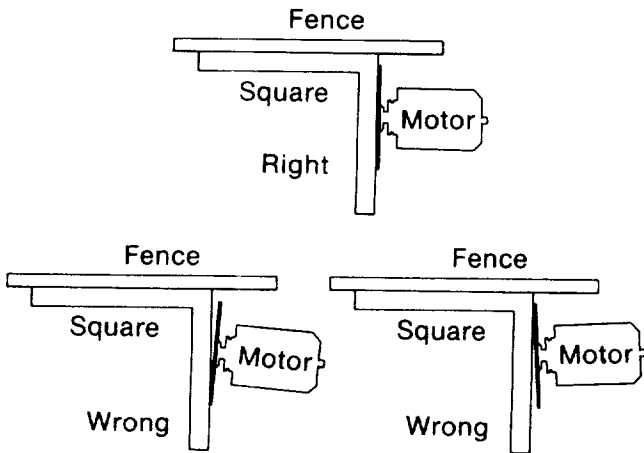

Fig. 77
5. If the square is flush with the *blade* after each rotation, no change is needed. (Figure 77) Go to the next section, or
If there is a gap between the square and the *blade* after any rotation, go to step 6. (Figure 77)